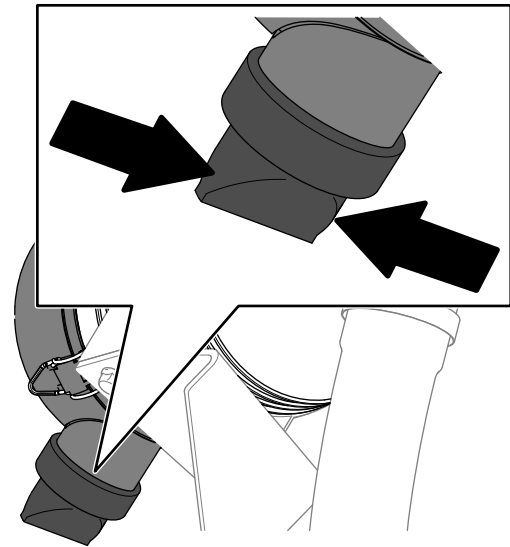

**Figure 108**
3. Check the service indicator at the end of the air filter housing (Figure 108).